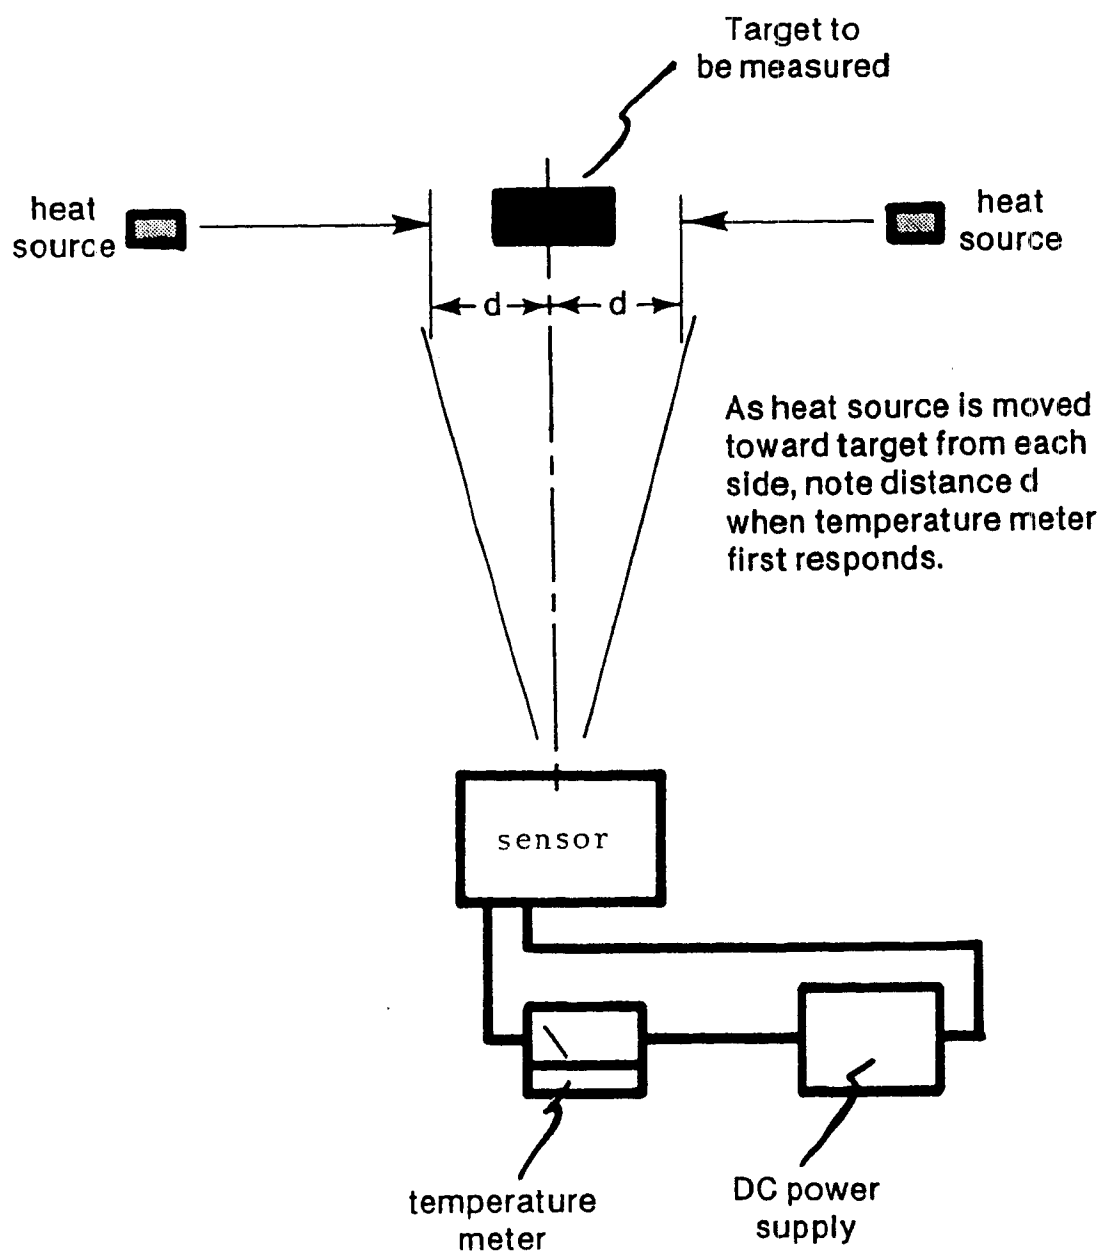

Figure 5-1. Checking Transmitter / Target Alignment.
2. Hold a heat source far enough to one side of the target so that it cannot be "seen" by the transmitter, Figure 5-1.